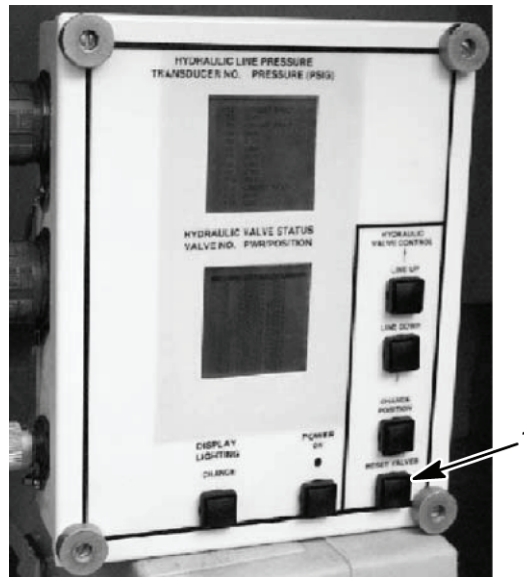

Figure 5. HDC Control Box
- Reset all HDC solenoid valves by selecting the RESET VALVES button (Figure 5, item 1) on the HDC control box.